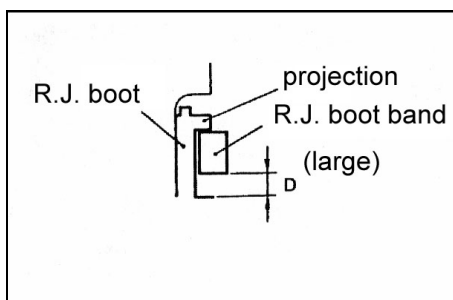

Fig.12-39
13. Place the R.J. boot (large) against the projection at the edge of the boot, and then secure it so that there is a clearance left as shown by D in the Fig.12-39.